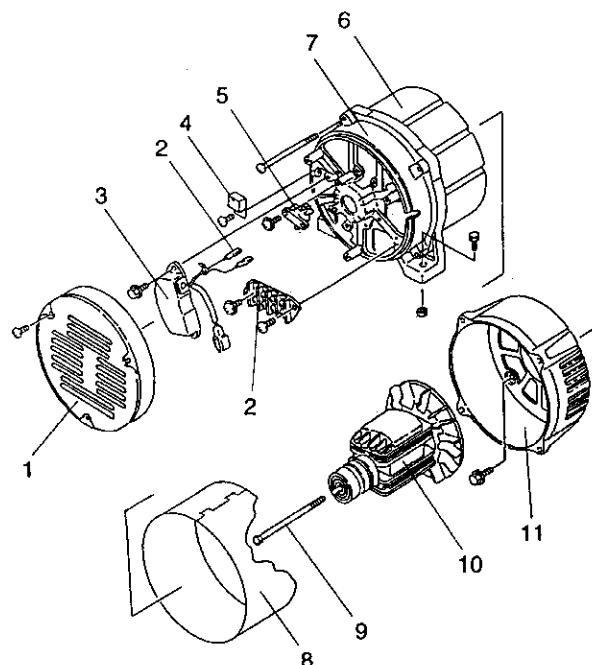

Fig. 5.2.4 Generator unit components
- Fig. 5.2.4 illustrates the scope of work and parts configuration.
- ① Remove cover 1.
- ② Disconnect terminal 2 for each electrical equipment.
- ③ Remove AVR 3 and rectifier 4.
- ④ Remove brush holder 5 together with the brush.
- ⑤ Remove stator 6 together with rear housing 7 and band 8.
- ⑥ Remove through bolt 9 by loosening it.